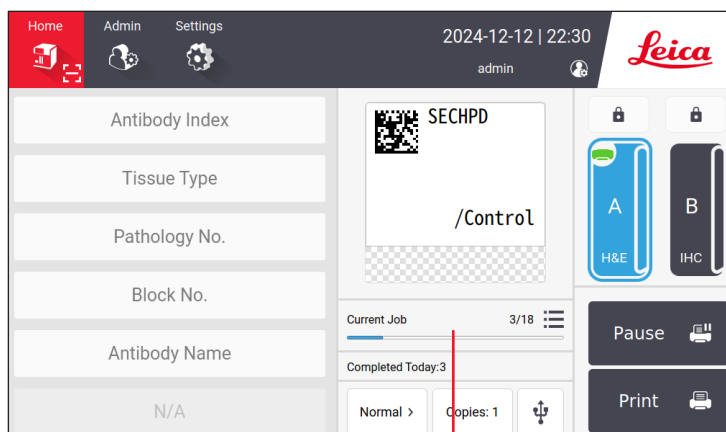

Fig. 36
8. Tap **OK** to initiate batch printing. You can monitor the progress of the current print job (→ Fig. 36) on the Main menu.